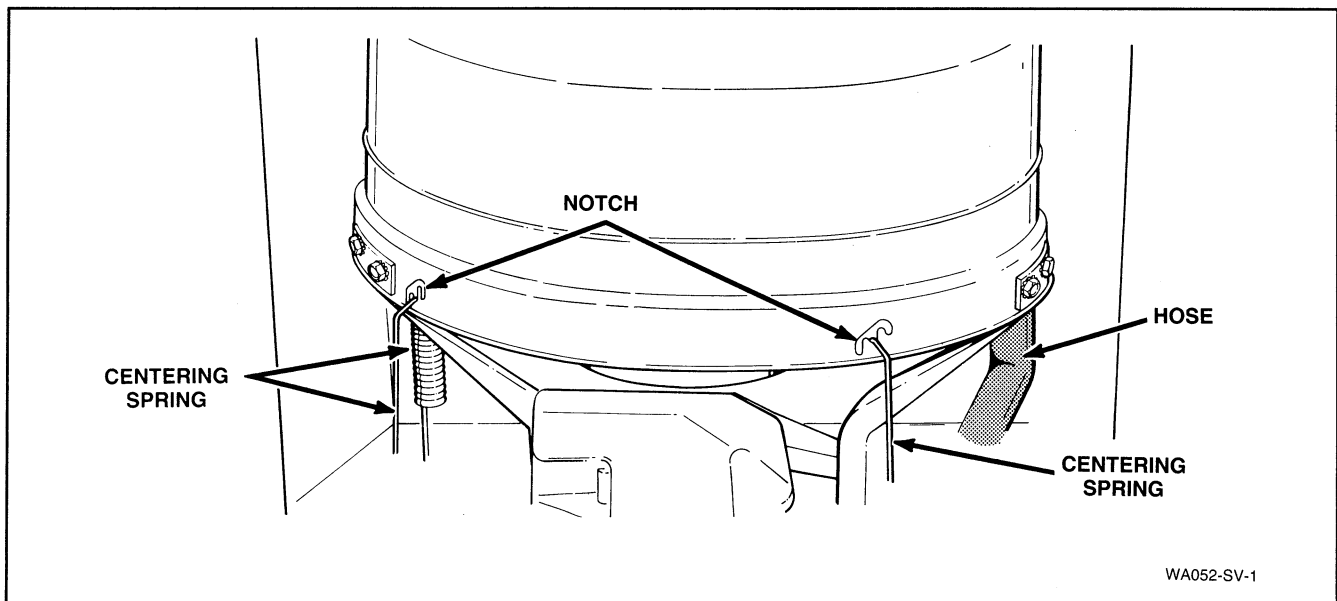

Figure 33
- n. Using the No. 229P4 Spring Hook Tool, unhook the five centering springs from lower edge of outer tub, *Figure 33*.
- j. Using the No. 229P4 Spring Hook Tool, unhook the five centering springs from the lower edge of outer tub, *Figure 33*.